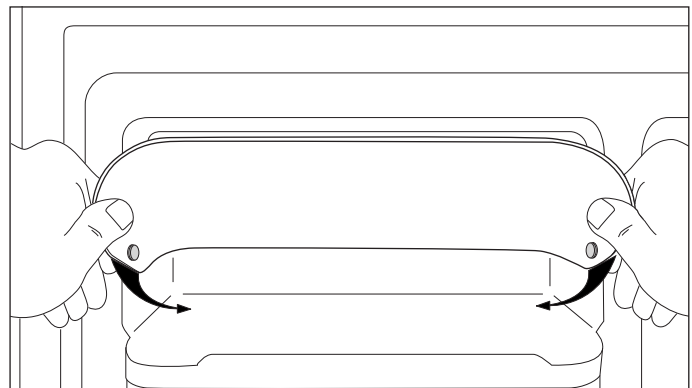

Figure 6-8. Dairy Door Removal
2. Grab the dairy door on each side and flex the outer edge inwards until the door is free of the pins in the door liner, then pull from door. (See Figure 6-8)